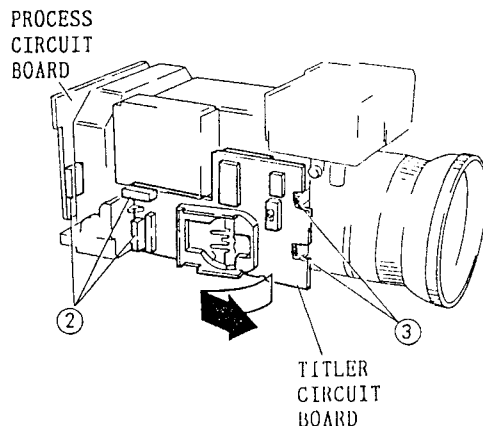

Fig. 2-29
2. Disconnect three (3) connectors (CN004, CN013, CN401). (See Fig. 2-29)
3. Release (2) tabs and remove the titler circuit board in the direction of the arrow.